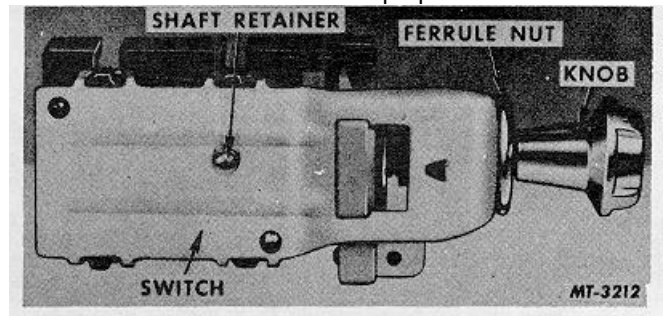

Fig. 3.
2. Depress shaft release button, Fig. 3, on switch body and pull knob and shaft out of switch body.